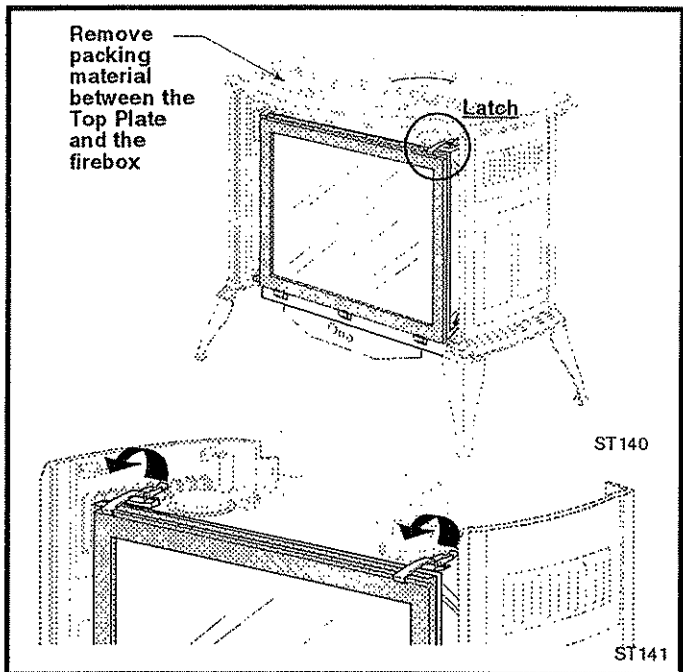

Fig. 13 Release the latches to remove the Glass Panel Frame.
2. The Glass Frame is held in place by two compression latches located on top of the firebox. Release each latch by gently pulling the handle forward. Use your left hand to release the right latch while maintaining gentle pressure on the frame with your right hand. Use your right hand to release the left latch. (Fig. 13) Lift the Glass Frame up off the front of the firebox and place it out of the way on a flat, protected surface.